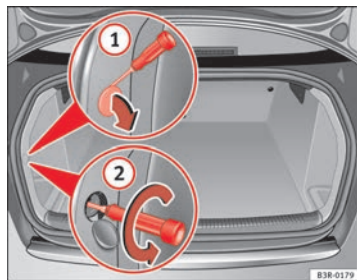
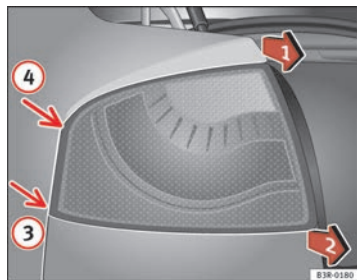

Fig. 210 Luggage compartment: Location of the bolt securing the tail light unit
Fig. 211 Removing tail light from side panel
- Pry open the cover at the slot with the screwdriver ⇒ **fig. 210** (1).
- Use a screwdriver to loosen the screw (2) (arrow) located behind the cover.
- Gradually ease the tail light out of the housing (⇒ **fig. 211** positions (3) and (4)) by pulling alternately in positions (1) and (2).